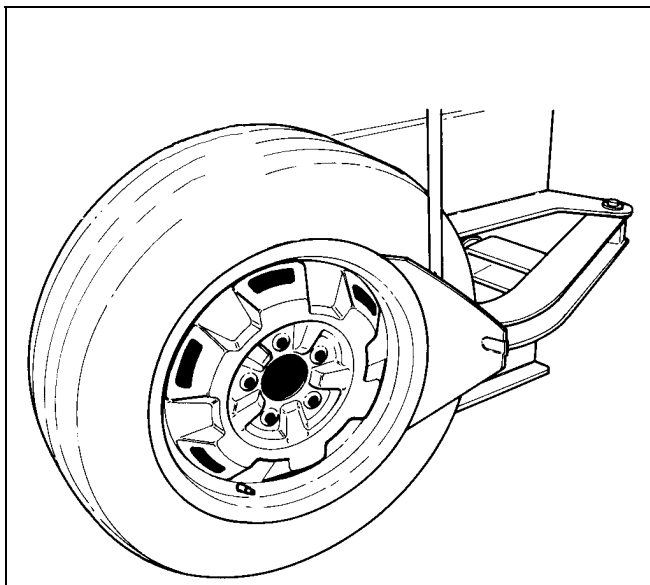

Fig.16
B. Position wheel assembly as shown in Fig.16.